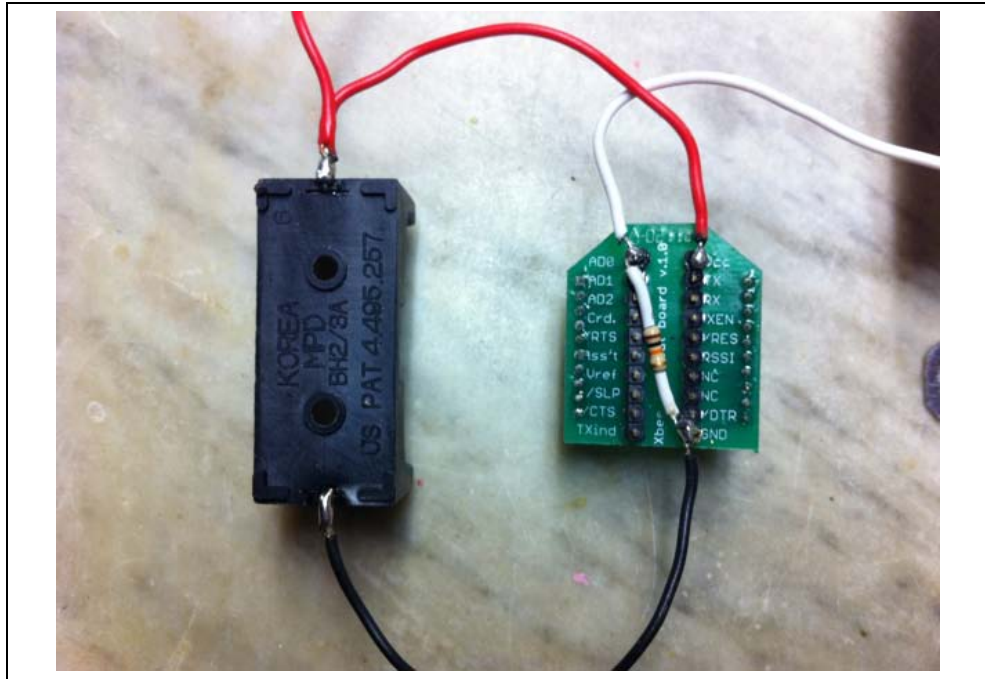

Figure 4. Power and ground connections to XBee breakout board
3. Use red hookup wire to connect pin 1 (VCC, 3.3V) of the XBee to the positive terminal of your battery holder (see Figure 4).